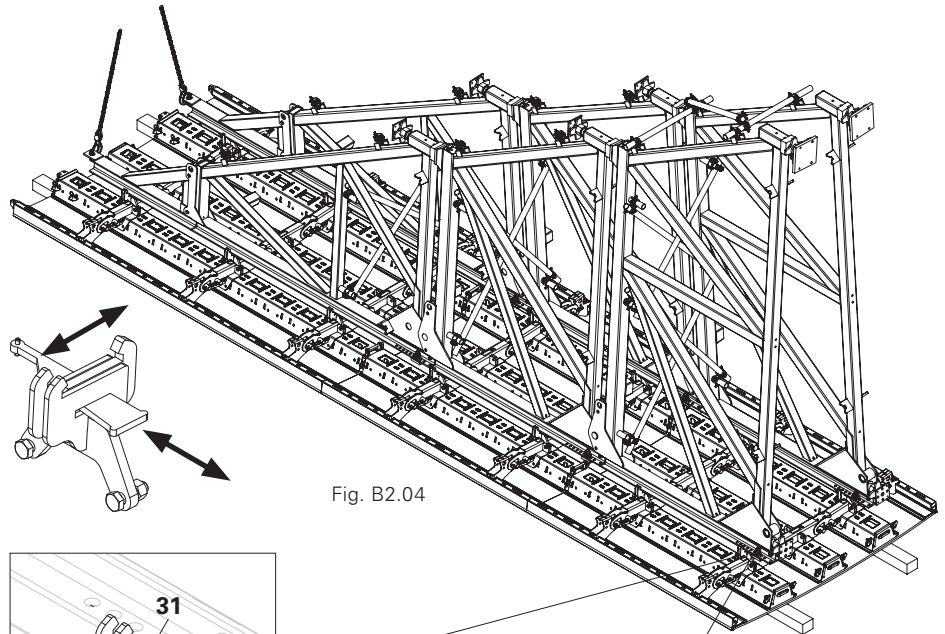

Fig. B2.04
1. Fix the Brace Frame Connectors RFP (31) in the Brace Connectors of the outer trapezoidal profiles, SW 24.
4. Close the Brace Frame Connectors RFP and secure with wedges. (Fig. B2.04 - B2.04b)